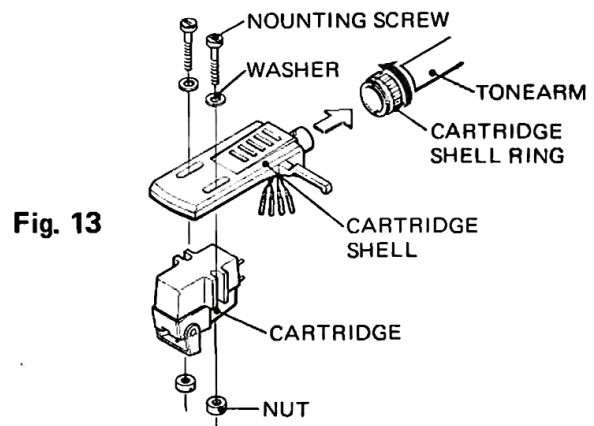

Fig. 13
- 3** Plug the cartridge shell into the tone arm and tighten the cartridge shell ring by turning it clockwise. (Fig. 13)